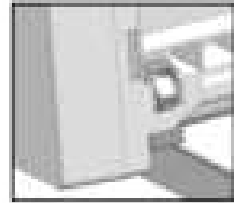

*Figure 3*
- Push the drawer down until you feel the front section clip onto the rails (see *Figure 3*).